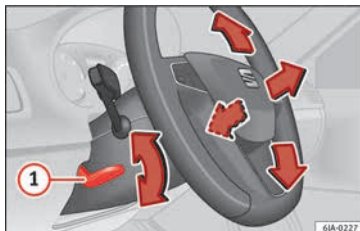

Fig. 14 Lever in the lower left side of the steering column.
Adjusting the position of the steering wheel: Pull the » » Fig. 14 ① lever down, move the steering wheel to the desired position and lift the lever back up until it locks.